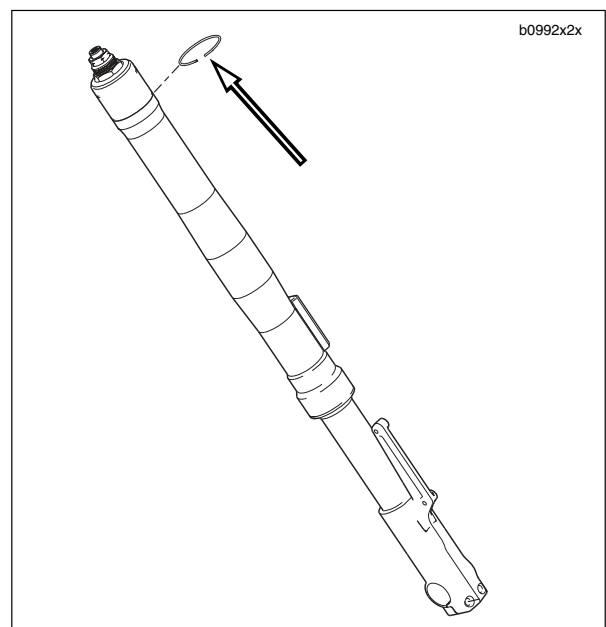

Figure 2-65. Stopper Ring
5. See Figure 2-65. Remove fork from upper fork clamp and slide the stopper ring up and over the top of the fork.